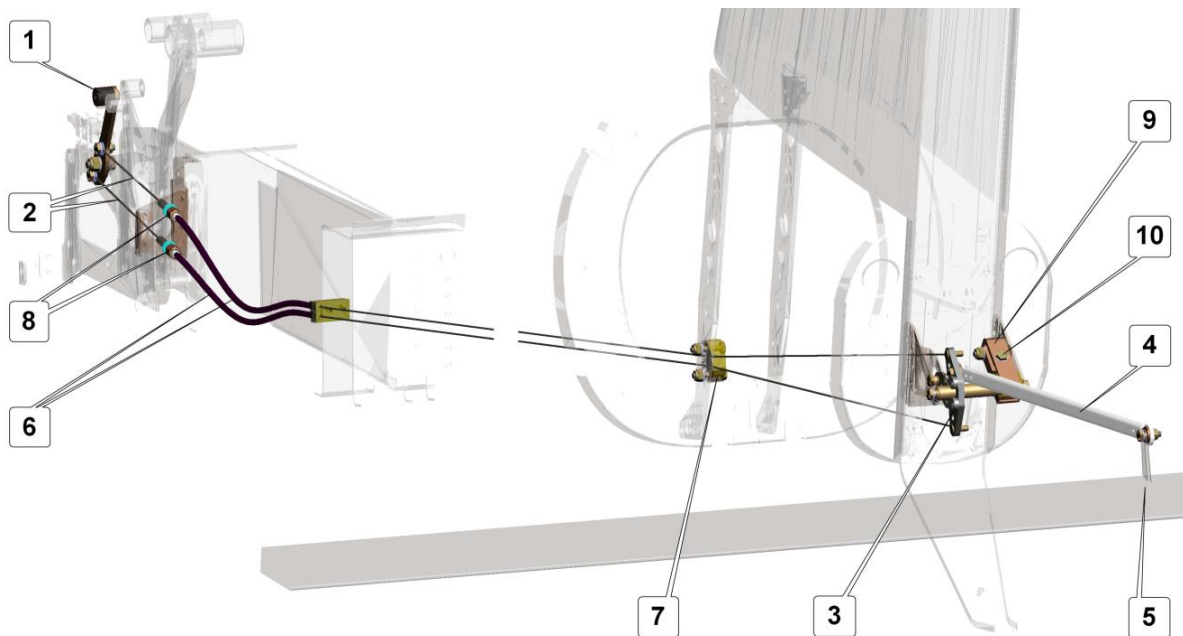

Fig. 5 AFHT antiservo/trim tab control system
The AFHT antiservo/trim tab control system (**Fig. 5**) is combined, it consists of a lever (1), two Ø1.5 mm (1/16 in) cables (2), a bellcrank (3), a friction clamp (9) and a rod (4).